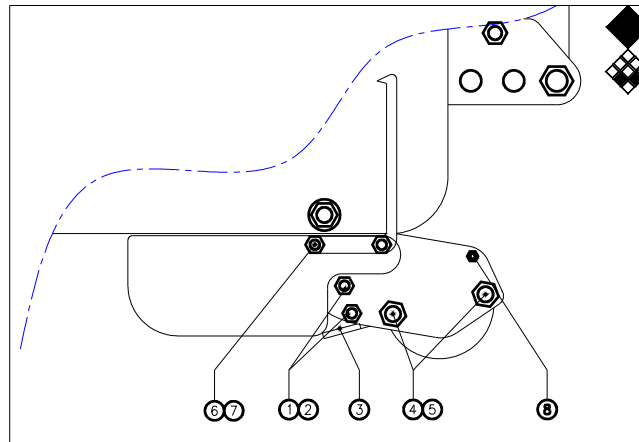

fig.4
1.2 Disassembly of the existing fixed turf hold down beam (see fig. 4)